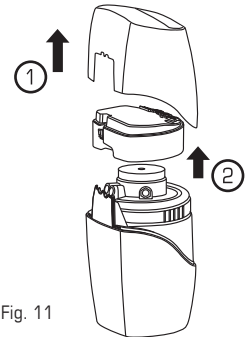

Fig. 11
2. **Remove** the Top Shroud from the Water Purifier (1). Remove the Electronic Module (2) (Fig. 11).